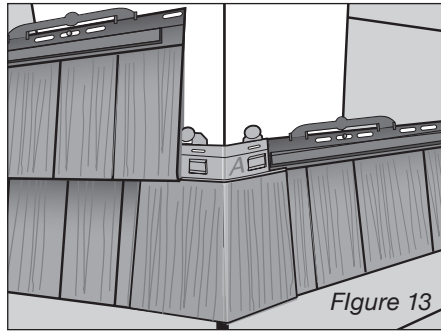

Figure 13
2. Once the panel has been fastened, hook the corner "A" over the siding, making sure the corner piece is locked into the starter strip (*Figure 13*).